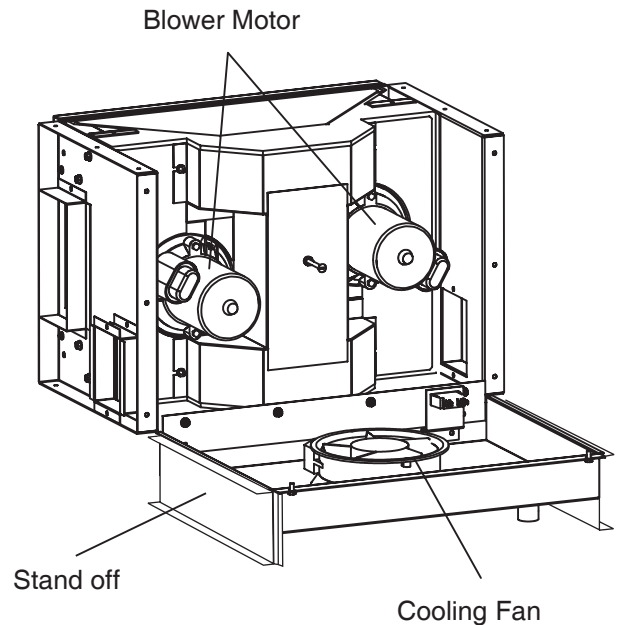

Figure 1-4 Blower Assembly
D. Cooling Fan - See Figure 1-4
Please Note: There are now two "stand off" "C" channels that must be installed in the field (See Section 1: Figure 1-4, page 3 for reference)